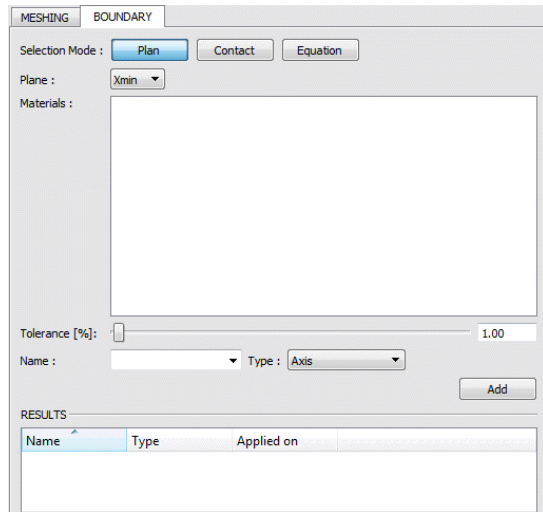

Figure 18.3: The Boundary Tab
- **A Boundary tab:** This is where boundary conditions are assigned to the mesh. Various tools let you select the elements (triangles) which are part of a given boundary condition group (given name and ID). This tab is available only if the selected file format allows exporting boundary conditions (Figure 18.3).